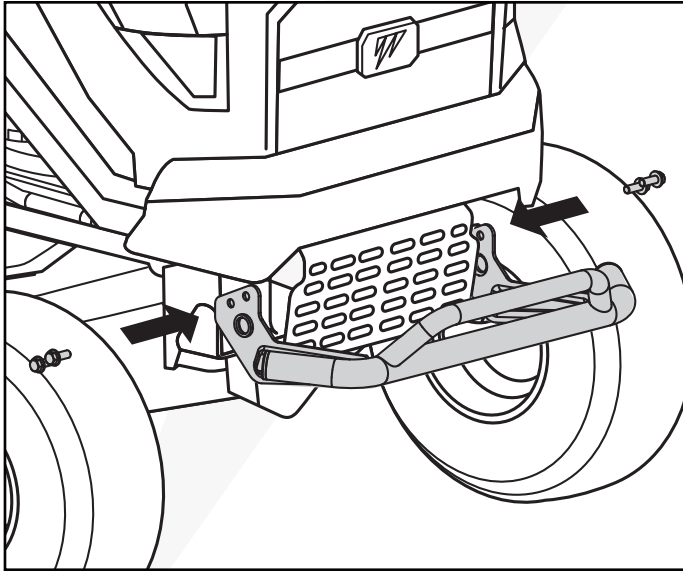

Fig. 5
- 1. Position the bumper bar in the front of the tractor. (Fig. 5)
- 2. Install the bumper bar with the four bolts provided (two on each side) to a torque of 15-19 ft-lbs. (Fig. 5)